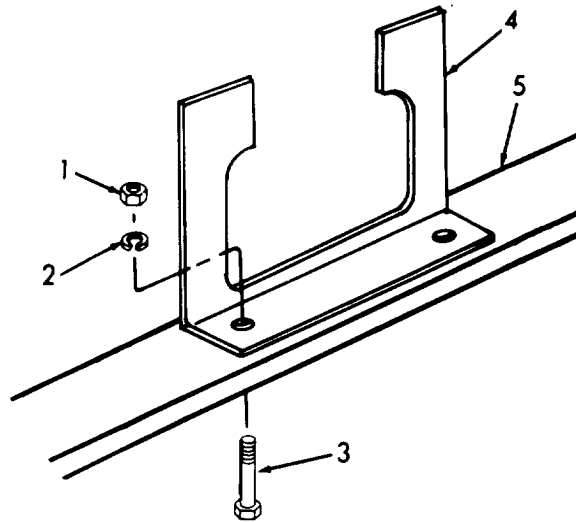

Figure 4-4. Engine removal.
- (1) Remove exhaust system as per 4-3.
- (2) Remove fuel tank and line as per 4-2.1.
(3) Remove centrifugal pump as per 4-4.2.
(4) Referring to figure 4-4. Remove nuts (1), washers (2), and screws (3) that attach the engine mounting bracket (4) to the frame (5).
Refer to figure 4-4. Repeat the removal procedure in reverse sequence.